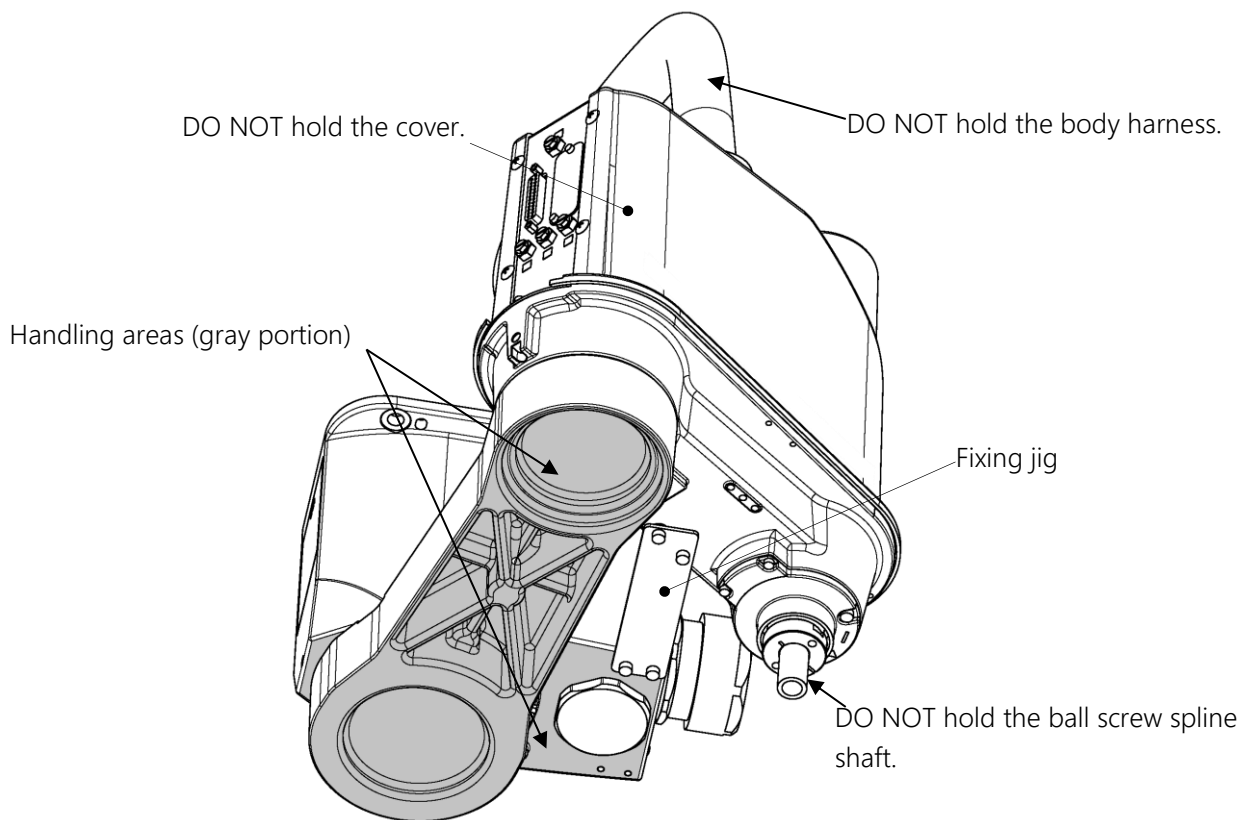

Fig. 2-2 Handling areas of the robot (KHE400-T)
In principle, the robot should be transported in the state shown in Fig. 2-2 below.
- When lifting up the robot by workers, hold the gray portions by hands as shown in Fig. 2-2. If the arm 2 cover, body harness, or ball screw spline shaft is held by hands, an unusually large force is exerted, resulting in a malfunction.
- The work should be performed by two (2) or more workers.